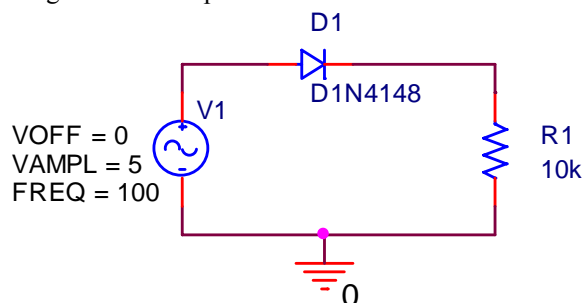

Figure B-5
- Create the circuit shown in figure B-5 in PSpice: